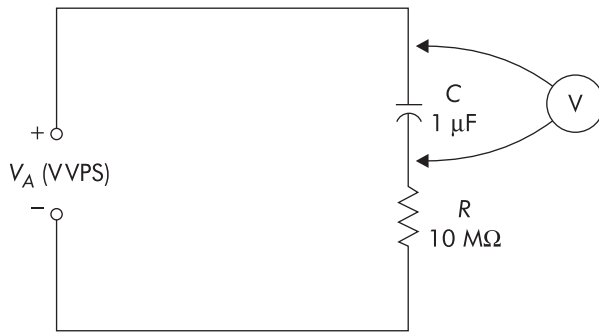

FIGURE 49-1
1. Connect the initial circuit as shown in Figure 49-1.